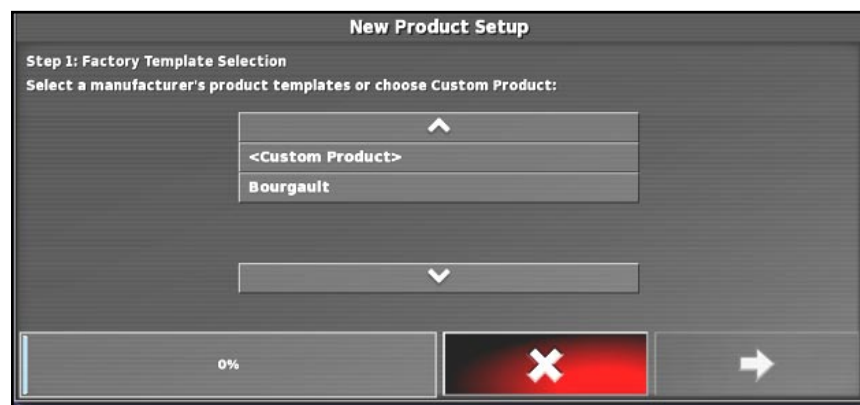

Figure 7.5 - Selecting Manufacture's Product Templates
2. Refer to *Figure 7.5*. Select Bourgault, then select yellow arrow to proceed to the next step.
2. Refer to *Figure 7.5*. Select "Custom Product", then select yellow arrow to proceed to the next step.